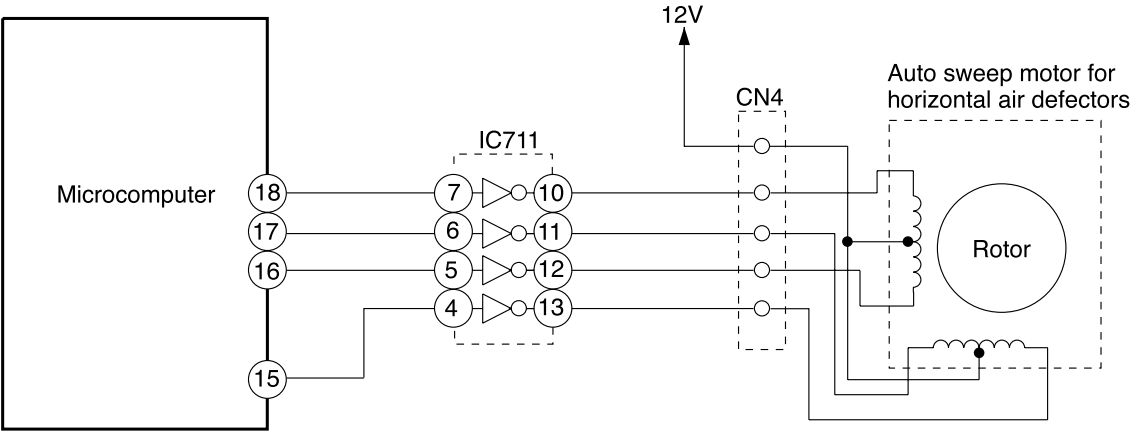
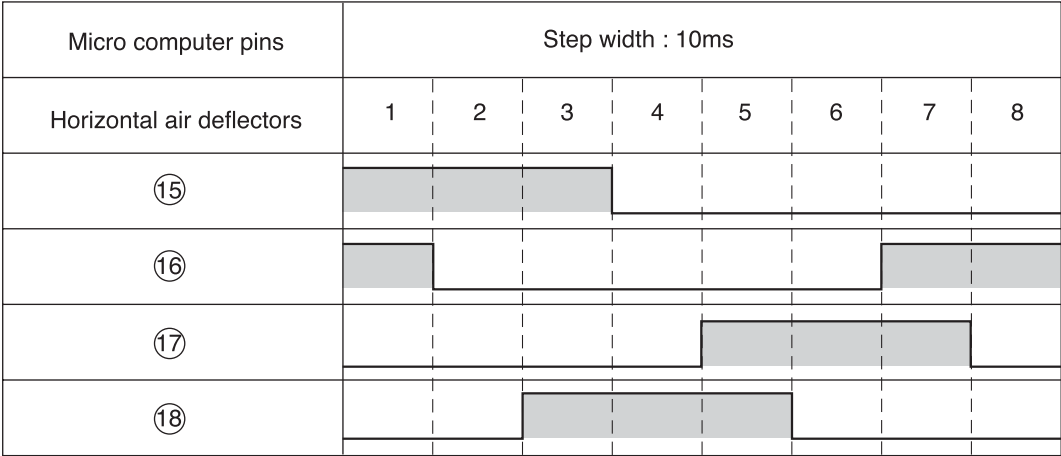

Fig.4-1
Fig.4-2 Microcomputer Output Signals
Fig. 4-1 shows the Auto sweep motor drive circuit; the signals shown in Fig.4-2 are output from pin ⑮ - ⑱ of microcomputer.
As the microcomputer’s outputs change as shown in Fig.4-2, the coils of the auto sweep motor is excite to turn the rotor. Table 4-1 shows the rotation angle of horizontal air deflectors.